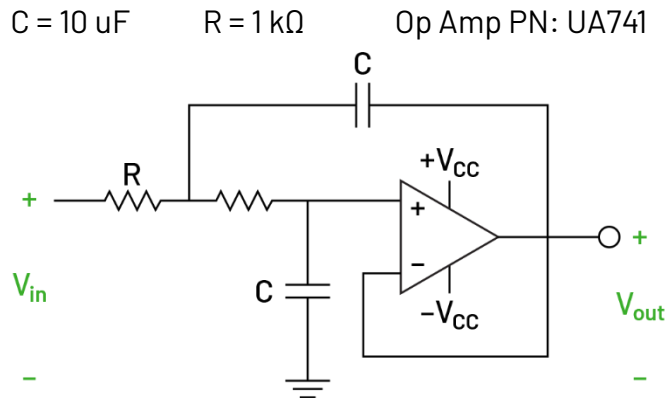
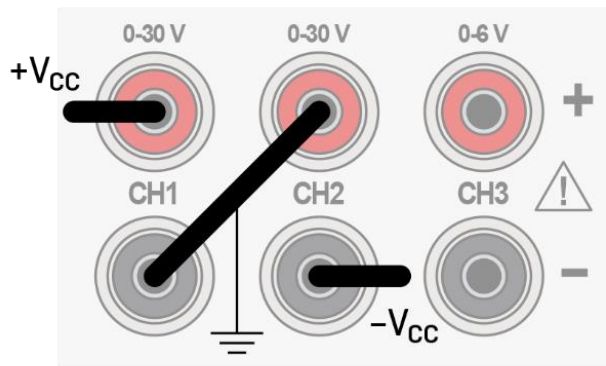

Figure 1. Low pass filter circuit diagram.
Figure 2. Wire diagram of 2230 power supply for powering op amp.
1. Build the low pass filter circuit in Figure 1. making sure to connect the correct nodes to the inverting and non-inverting inputs. To power the op amp, use the DC power supply with the configuration in Figure 2. By connecting the negative output from channel 1 and the